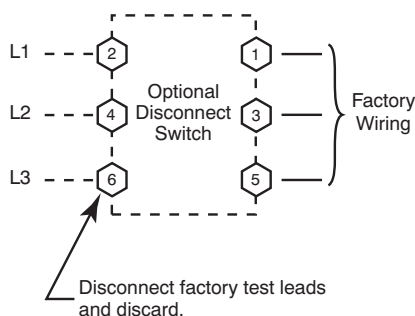

Fig. 24 - Power Wiring Connections
If equipped with optional Powered Convenience Outlet: The power source leads to the convenience outlet's transformer primary are not factory connected. Installer must connect these leads according to required operation of the convenience outlet. If an always-energized convenience outlet operation is desired, connect the source leads to the line side of the unit-mounted disconnect. (Check with local codes to ensure this method is acceptable in your area.) If a de-energize via unit disconnect switch operation of the convenience outlet is desired, connect the source leads to the load side of the unit disconnect. On a unit without a unit-mounted disconnect, connect the source leads to compressor contactor C and indoor fan contactor IFC pressure lugs with unit field power leads (see Fig. 24).
All field wiring must comply with NEC and all local codes. Size wire based on MCA (Minimum Circuit Amps) on the unit informative plate. See Fig. 24 for power wiring connections to the unit power terminal block and equipment ground. Maximum wire size is #4 ga AWG per pole.
2. Install power lines to terminal connections as shown in Fig. 24.